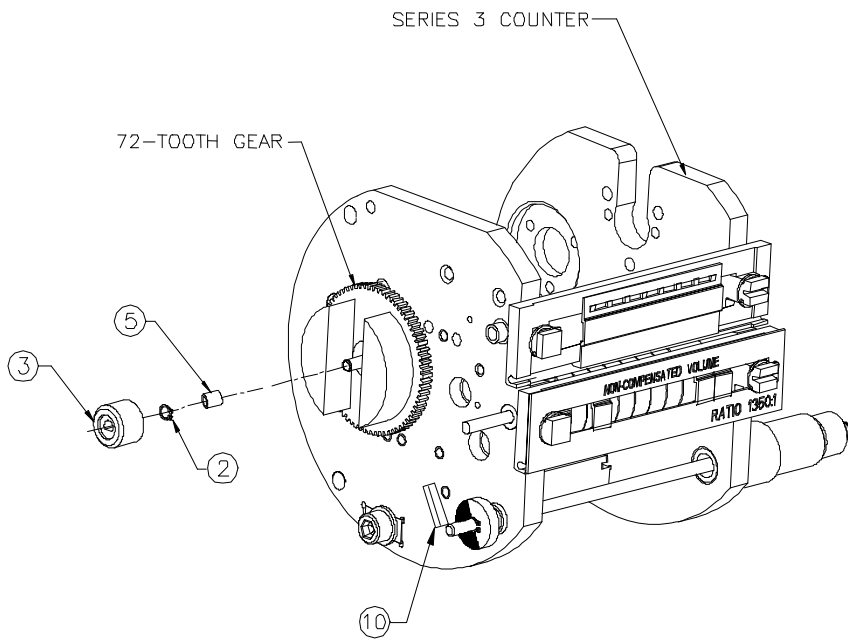

Figure 3
C **NOTE (if converting CTR/CPW to ICPW):** Remove the existing spacer (item 5) as shown in Figure 3 and replace with the Teflon washer (item 12) supplied. See drawing 054190-090 sheet 2 of 6.